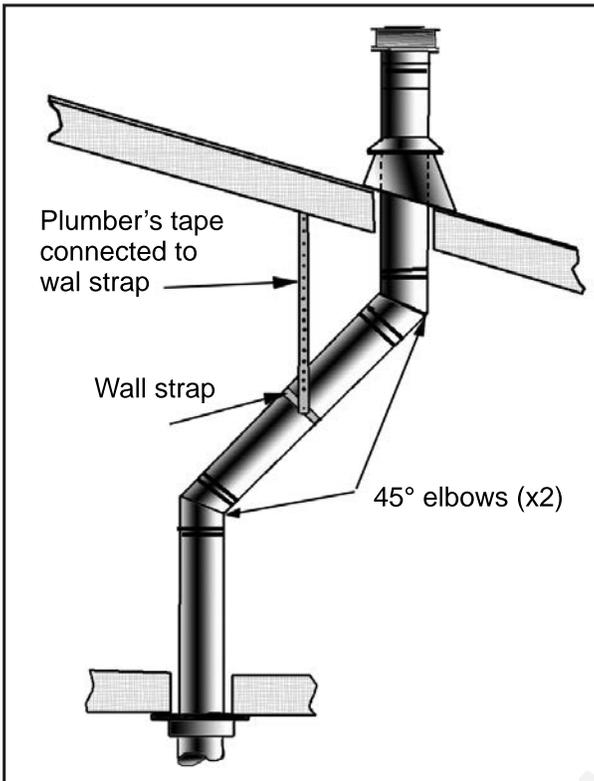
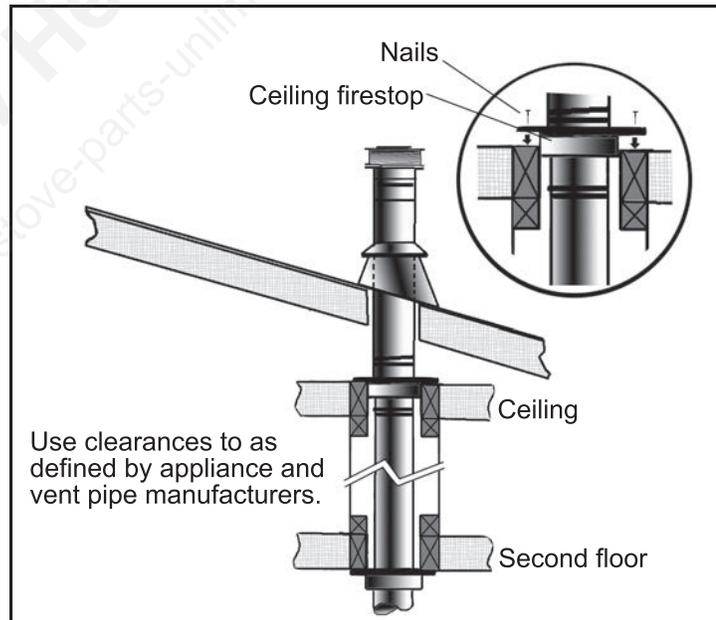

Figure 40: Use of Wall Straps.
Figure 41: Multi-Story Vent Pipe Installation.
- (1) If an offset is necessary in the attic to avoid obstructions, it is important to support the vent pipe every 3 feet (914 mm), to avoid excessive stress on the elbows, and possible separation. Wall straps are available for this purpose (see Figure 40).
- (2) When ever possible, use 45° degree elbows instead of 90° degree elbows. The 45° degree elbow offers less restriction to the flow of flue gases and intake air.
- (3) For multi story installations; a ceiling firestop is required at the second floor, and any subsequent floors (see Figure 41). The opening should be framed to 10" (254 mm) x 10" (254 mm) inside dimensions, in the same manner as shown in Figure 21.
- (4) Any occupied areas above the first floor, including